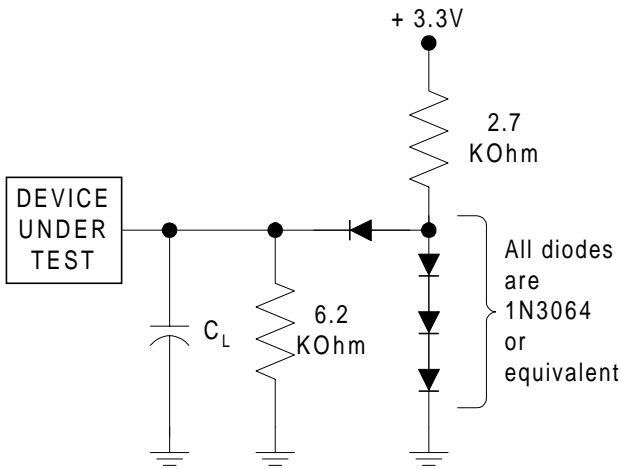

Figure 13. Test Setup
2. See Figure 13 and Table 12 for test conditions.